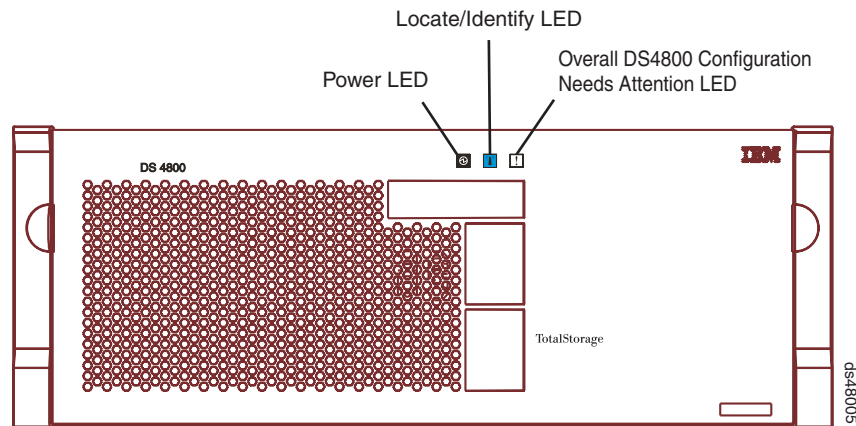

Figure 91. Overall DS4800 Configuration Needs Attention LED on the DS4800 front bezel
1. Locate the failed interconnect-battery unit by checking the Overall DS4800 Configuration Needs Attention LED on the front bezel of the storage subsystem. (Figure 91 shows the location of the Overall DS4800 Configuration Needs Attention LED on the front bezel.)